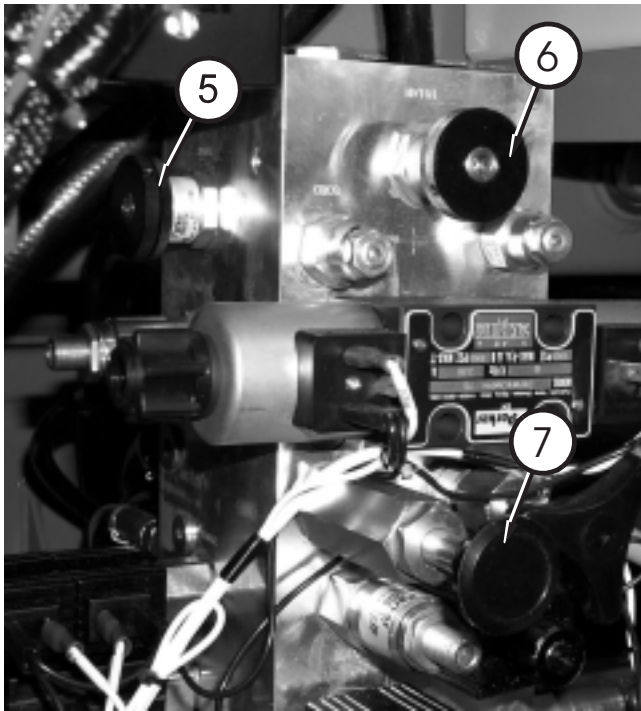

Figure 9.9
3. Inside the hydraulic compartment, open the free-wheeling valve **5** by turning counterclockwise until knob stops. Close the brake tow valve **6** by turning clockwise until the knob stops (see Figure 9.9).
4. To release the brakes, pump the hand pump **7** 5 - 10 times. (see Figure 9.9). The brakes will now be released and the SR is ready to be pushed or towed.